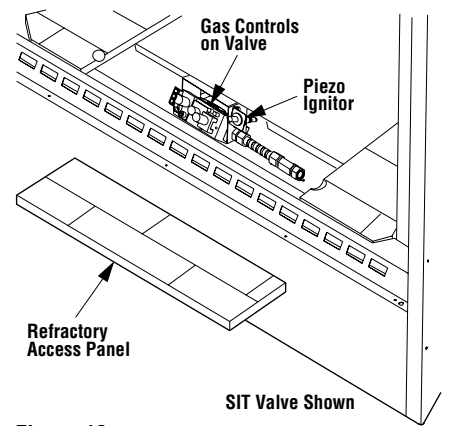
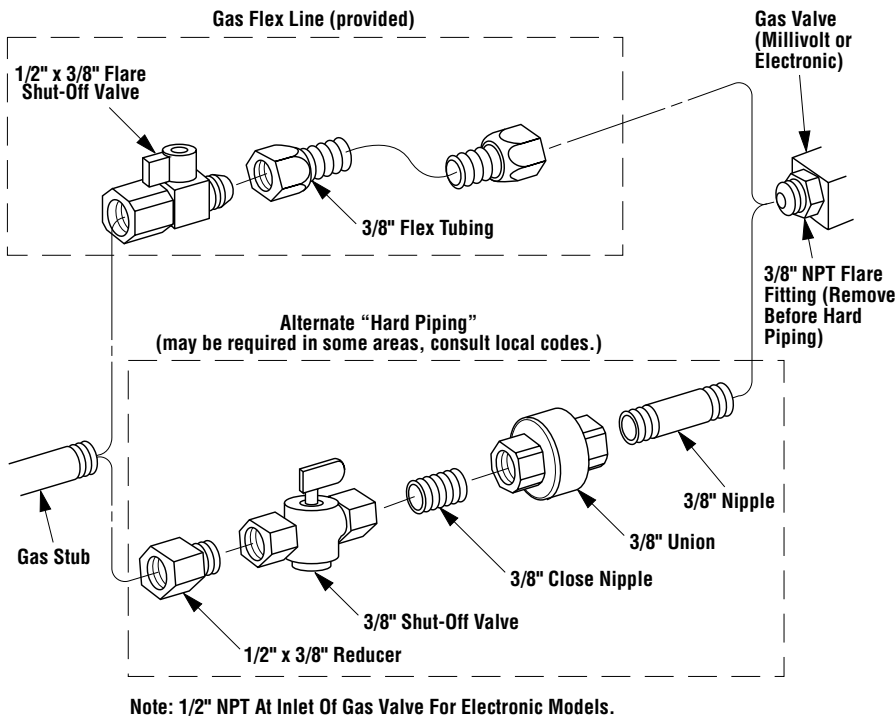

Figure 13
Figure 15
Step 6. Connecting Gas Line – Make gas line connections. All codes require a shut-off valve mounted in the supply line. Figure 15 illustrates two methods for connecting the gas supply. The flex-line method is acceptable in the U.S., however, Canadian requirements vary depending on locality. Installation must be in compliance with local codes. The gas control valve is located in the lower control compartment. To access the valve remove the refractory access panel and set aside (Figure 13).
Step 9. Checking the System – With the gas line installed, run initial system checkout before closing up the front of the unit. Follow the pilot lighting instructions provided in the Homeowner's Care and Operation Instructions. The piezo ignitor is located in the control compartment (see **Figure 13**).